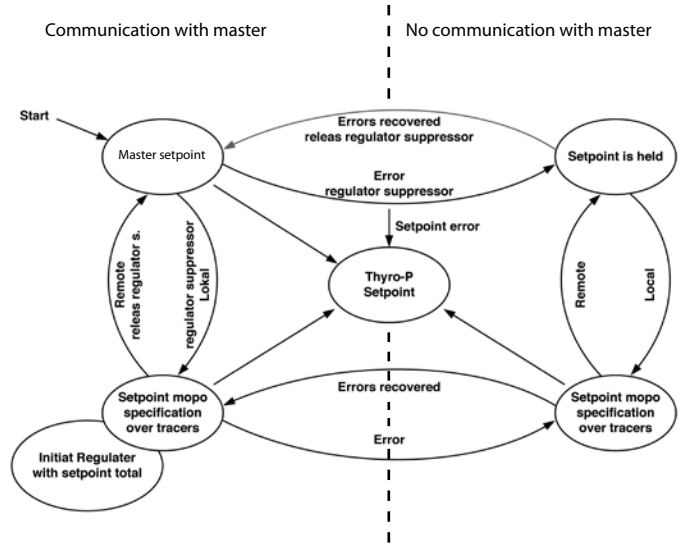

FIG. 5 STATE DIAGRAM
3. When switching from local to remote the process controller is to be initialized with the total setpoint and then activated. The above configurations then result in the following process diagram (see. Fig. 5).